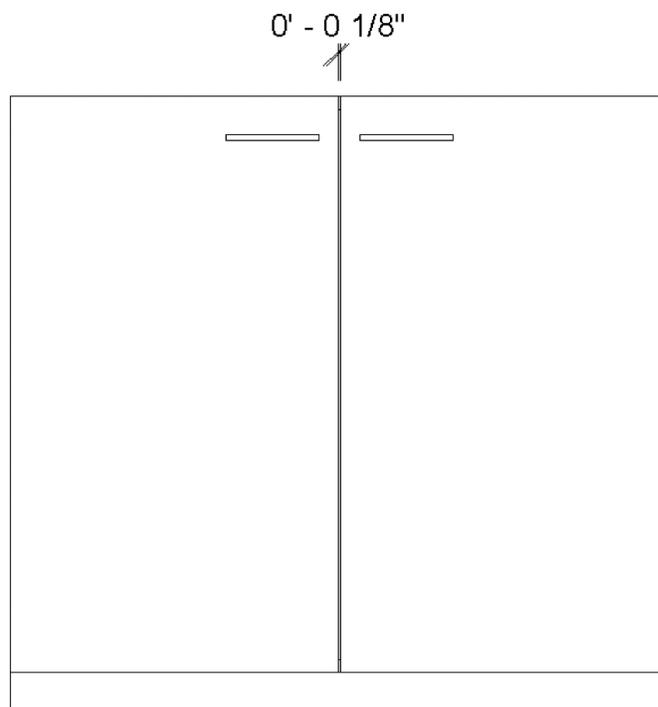

Figure 1. Office Cupboard front elevation
- Create a series of formulae to control the cupboard doors maintaining a 1/8" gap as shown in figure 1.